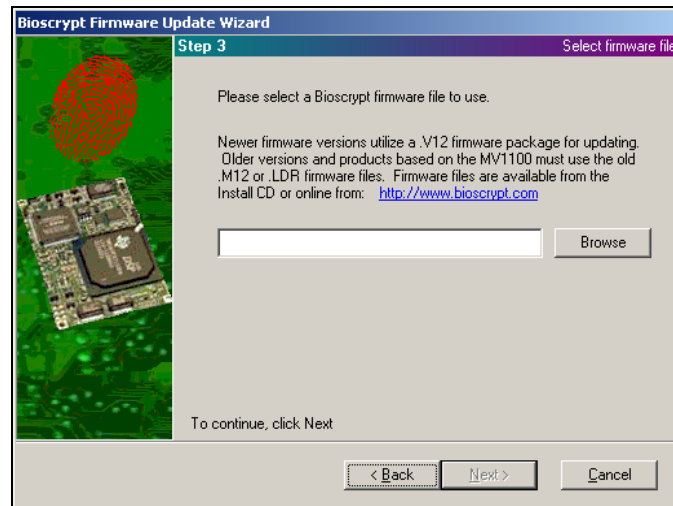

Figure 51: Firmware Update Wizard – Step 2
- **Step 3** of the wizard (see Figure 51) will ask the user to supply the Bioscrypt firmware file for upgrading. This file is available either on the installation CD that came with this software or from the Bioscrypt web site at www.bioscrypt.com. There are several different types of firmware files. However as of firmware version 7.30, all Veri-Series products use the same “package” firmware file with a .V12 file extension. The following is a breakdown of the various types of firmware files including the older formats: